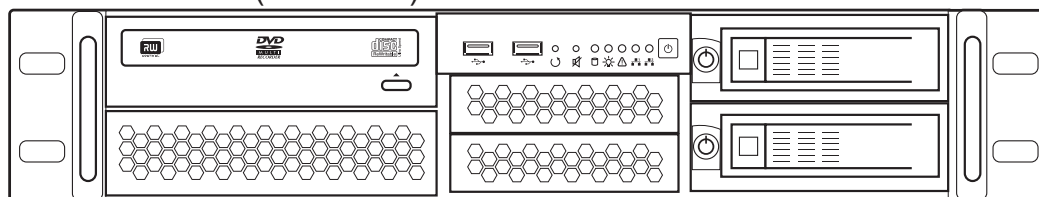

Figure 1.1 TMP6400-CTRL Front Views
- One (1) or two (2) TMP6400-CTRL application server(s). See figure 1.1 on page 2.
- One (1) TMP6400-CTRL. See figure 1.1 on page 2.
- Four (4) keys.
- One (1) front bezel.
- Two (2) hard drives.
- Two (2) power cords.
- One (1) packing slip.
- One (1) set of sliding rails and associated screws.
- One (1) set of brackets and associated screws.